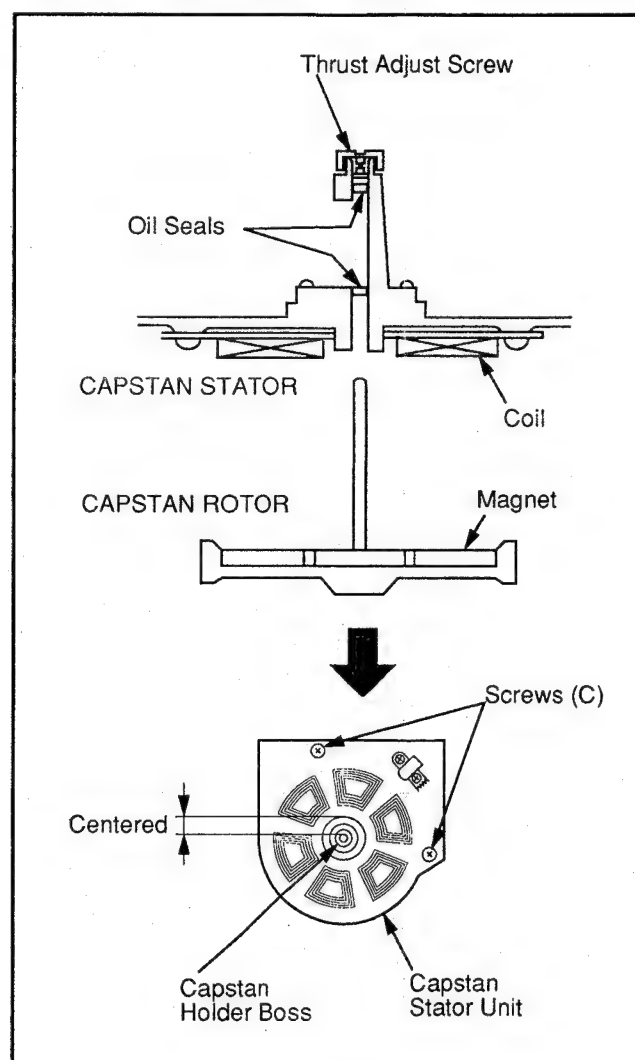

Fig. M19
3. Carefully pull out the Capstan Rotor Unit. Be careful not to lose the 2 Oil Seals shown in Fig. M19.
8. Install the new Capstan Rotor, carefully inserting the Oil Seals as shown in Fig. M19.